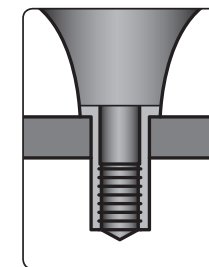

Fig. 5
- 5) Insert the rivet nut into the installation hole (fig. 5).